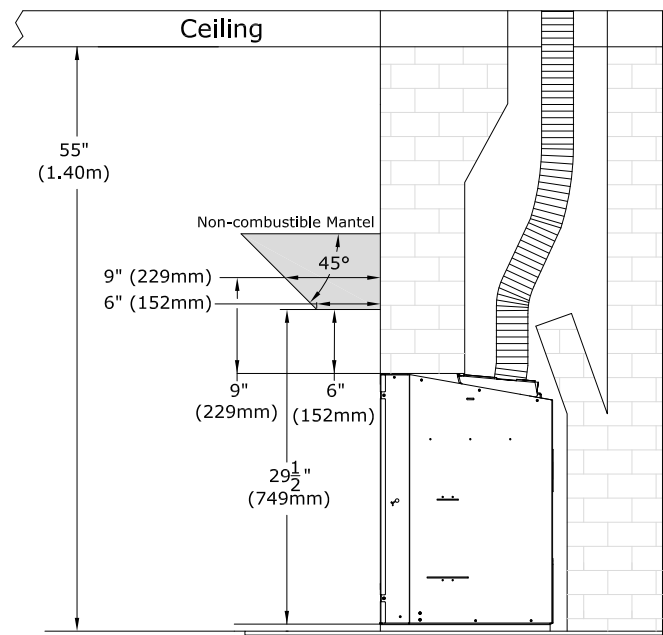

Figure 8.4, Mantel Requirements
- Combustibile Mantel Projections: As referenced in Figure 8.4 (page 25) the optional 3/4" (19mm) trim can start at 6-1/2" (165mm) above the top of the appliance with a 9" (229mm) mantel starting at 10" (254mm) above the top of the appliance. Mantel projections can increase 1" (25mm) of depth for every 1" (25mm) of height starting at the 6" (152mm) mantel.
- Non-combustibile Mantel Projections: As referenced in Figure 8.4 (page 25). A minimum vertical clearance of 6" (152mm) above the appliance to a maximum 6" (152mm) depth of a non-combustibile mantel. Follow projection 1" (25mm) up for every 1" (25mm) deeper.